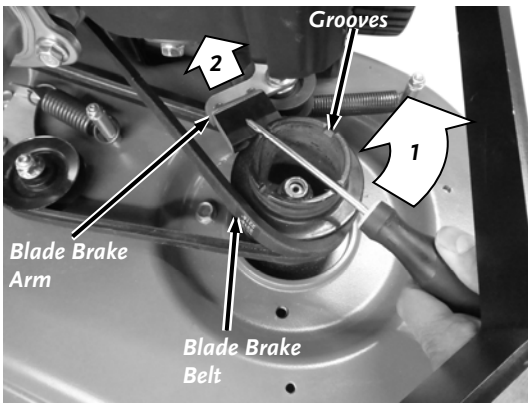

Figure 33
4. Remove the Blade Brake Belt from the Blade Pulley by rotating the Pulley with a Screwdriver (in slots) as you roll the Blade Brake Belt over the top of the Pulley (**Figure 33**).
4. Double Check that the Belt wraps tightly around the Pulleys when Bail Bar is engaged and that the Brake fully engages the Pulley when the Bail Bar is released (**Figure 33**). Tighten/loosen the Cable as needed by the following steps.